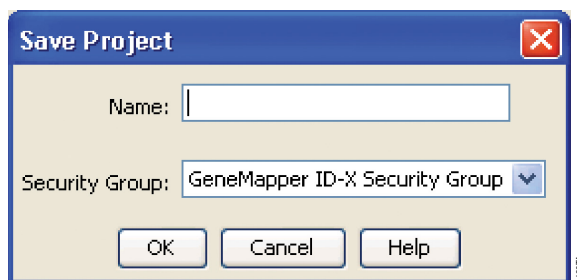

Figure 16. 'Save Project' Window.
9. If all analysis requirements are met, the 'Save Project' window will open (Figure 16).